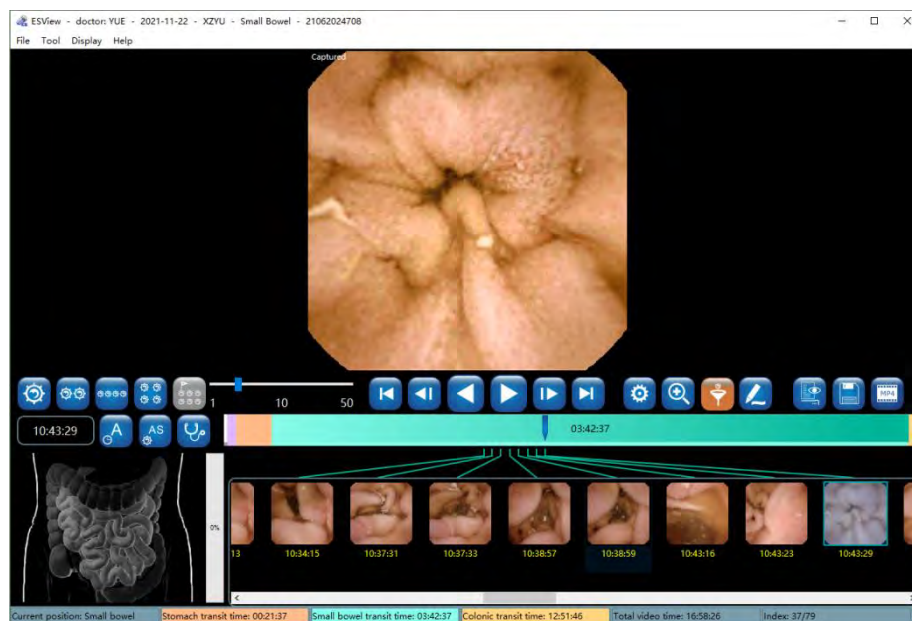

Figure 4-39: Filter Browsing Mode
- Click , when the button icon changes to , the filter browsing mode will be activated (Figure 4-39). In this mode, the software displays only tagged or captured images for further screening.